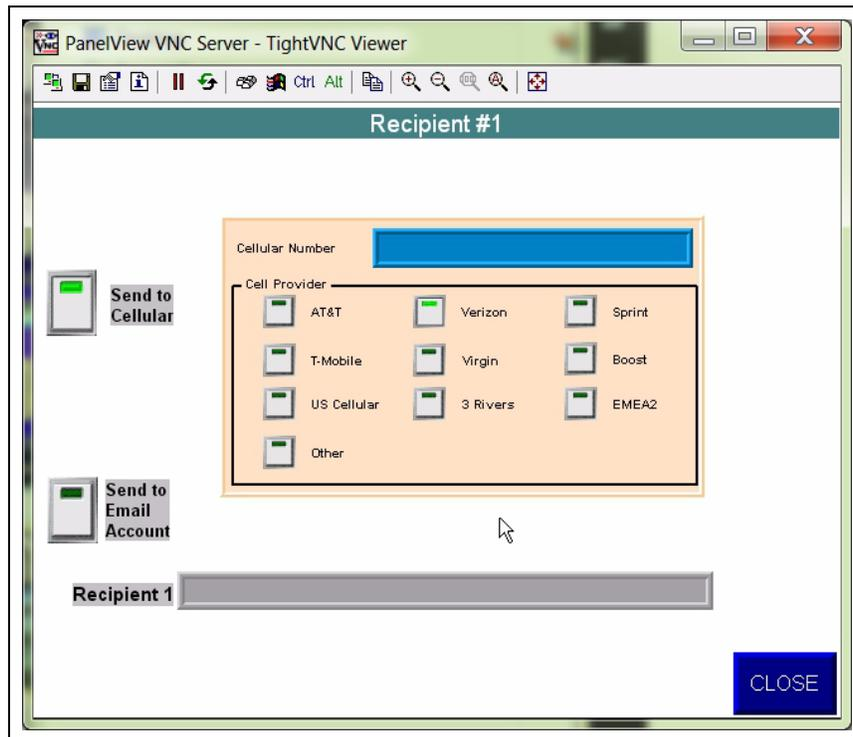

Figure 6E
4. Press Recipient 1 Setup. This will take you to the Recipient # 1 display. To send an email message, go to Step 5 on Page 27. To send a text, skip Step 7 on Page 28. (See Figure 6E.)